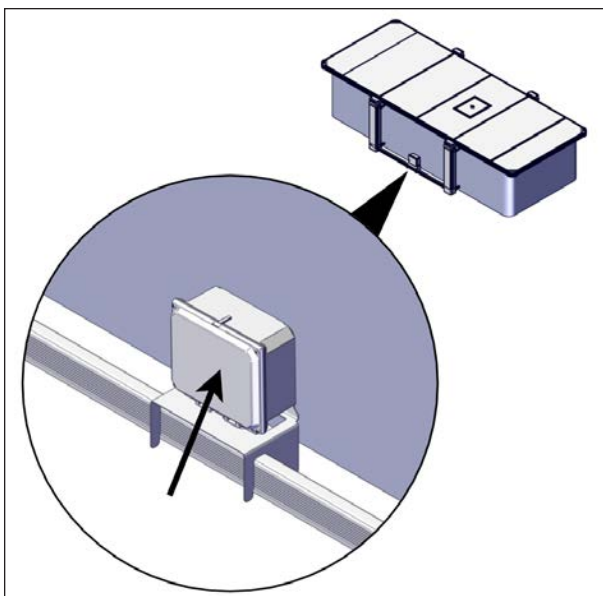

FIGURE 92: CONTROL BOX INSTALLATION
1. Install the pre-assembled control box and its holding bracket on one of the U-frames between the two sleeves, see Figure 92.
The AC control box must be installed in its vertical position. The connectors must face the ground, see Figure 92.